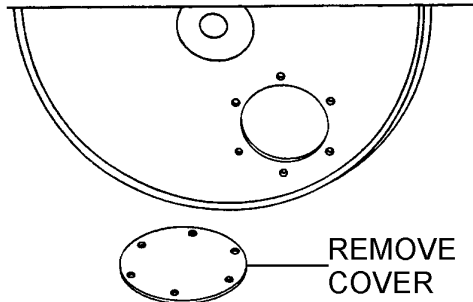

Figure 29. Chain Cover
1. Take off the checking cover on roller and coat grease on the chain if necessary (Figure 29). The chain should be lightly lubricated with motor oil.